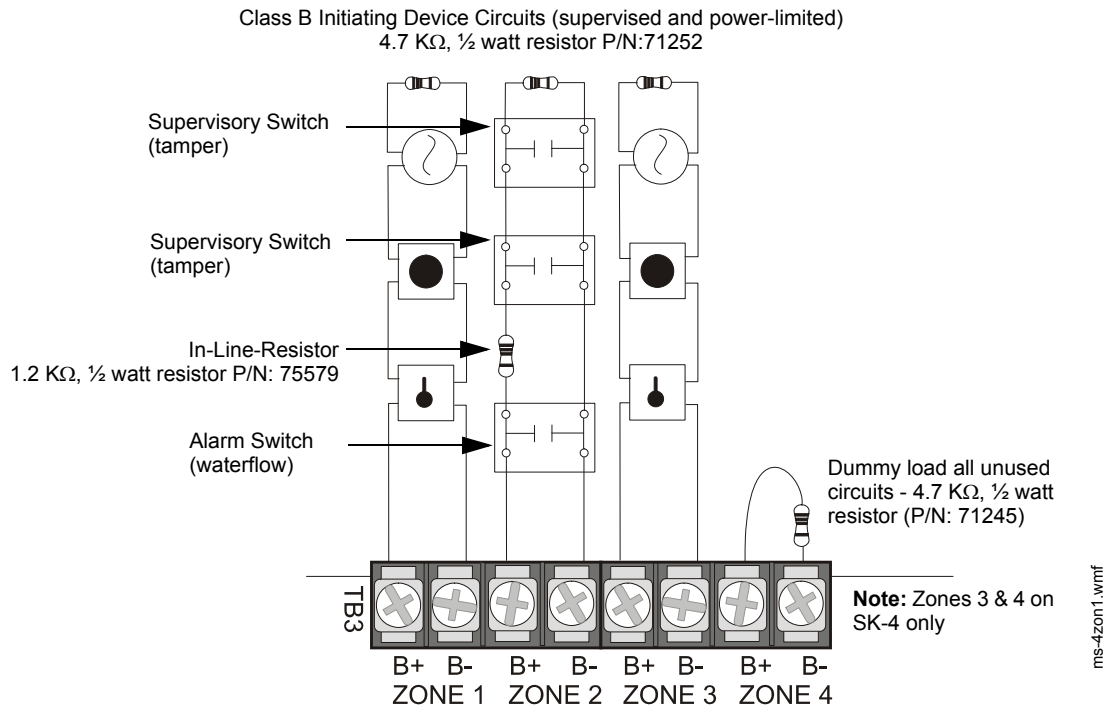

Figure 2.5 Style B Combination Circuit on Zone 2 of the SK-4
- ✓ The Waterflow Alarm Switch(es) must connect to the FACP Initiating Device Circuit before the In-Line Resistor as shown in Figure 2.5
- ✓ The Waterflow Supervisory Switch(es) must connect to the FACP Initiating Device Circuit after the In-Line Resistor as shown in Figure 2.5